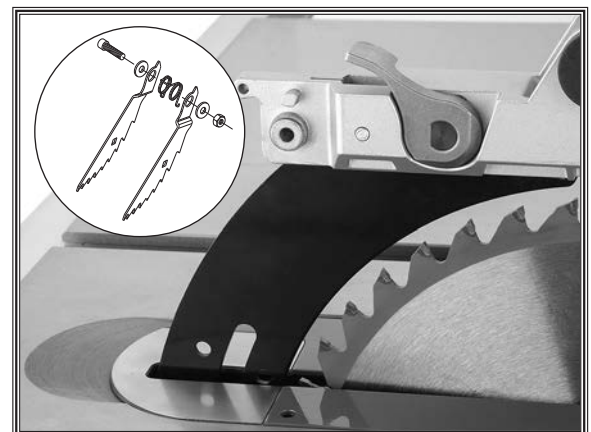

Figure 51. Pawls Removed.
2. Remove cap screw, locking hex nut, washers, pawls, and retaining spring from blade guard assembly (see **Figure 51**).